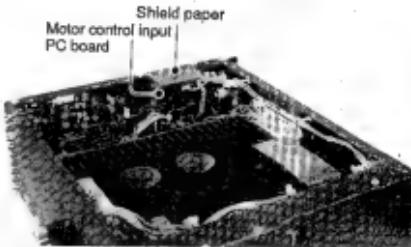

Figure 5.
6. Disconnect the flat wire from the connector on the motor control input board, and unsolder FW552. (Figure 5)